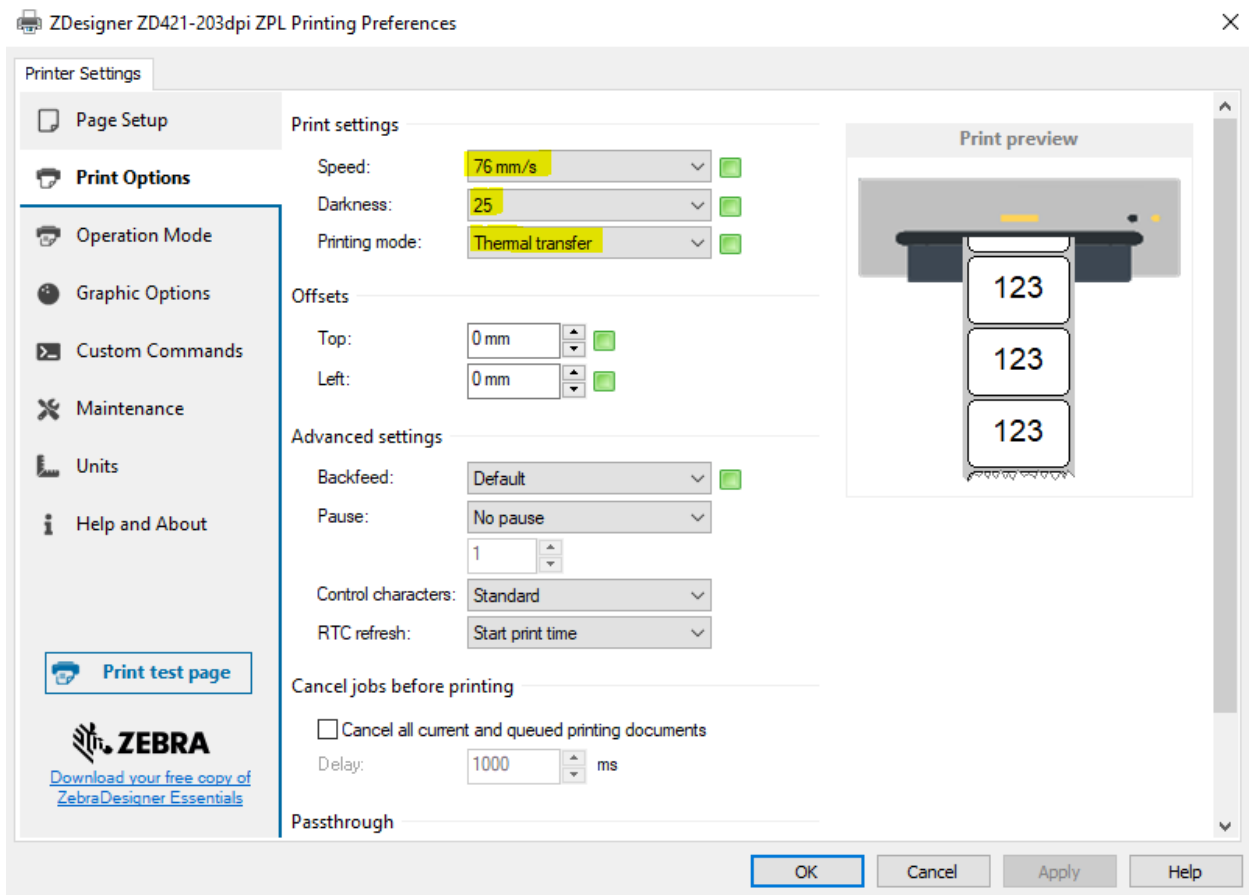

Figure 4: Print options
- Figure 4: Print options4
Once you finish the **Page Setup**, select **Print Options** and adjust the speed, temperature and printing mode (see Figure 4).